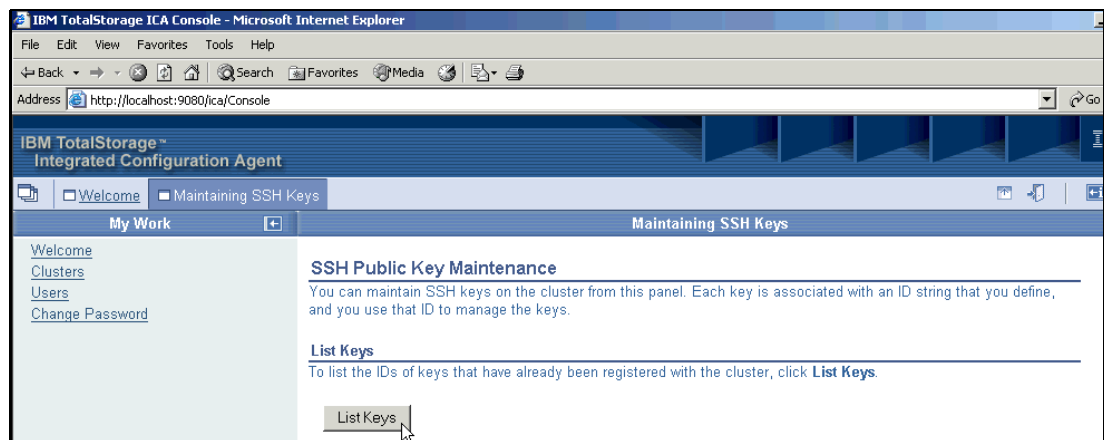

Figure 6-5 SSH Public Key Maintenance panel
7. The Maintaining SSH Keys panel (Figure 6-5) opens. We already uploaded our keys. To verify this, click the **List Keys** button.